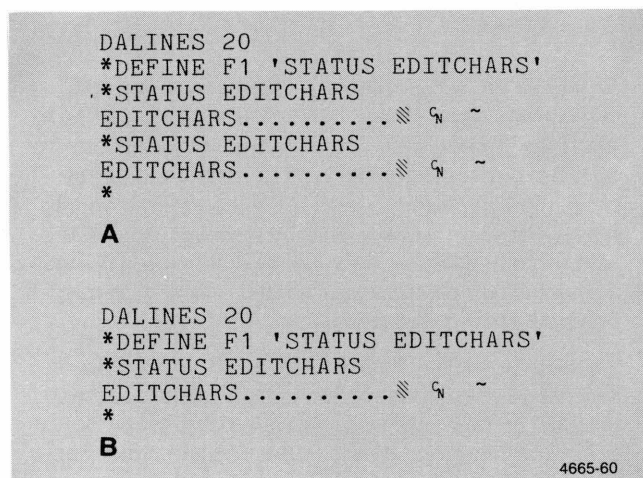

Figure F-11. Results of Programming a Key.
4. Notice the third character in the edit character report (Figure F-11). This is called the *literal character*.
5. Now press the key labeled F2; the terminal executes the STATUS command. Figure F-11 shows the result of that command as well as the entire sequence of commands in this example.